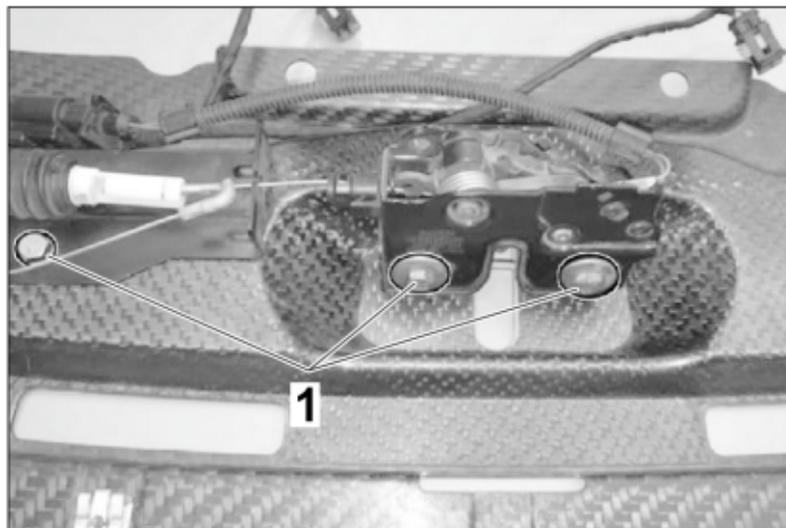

Figure 44
1. – Place the mounting bracket on a suitable surface and remove the lock unit and the complete cable harness, including all retaining clips. Remove the fastening screws ⇒ *Figure 44 -1-* on the lock unit. Remove the cable harness with all retaining clips from the standard mounting bracket.